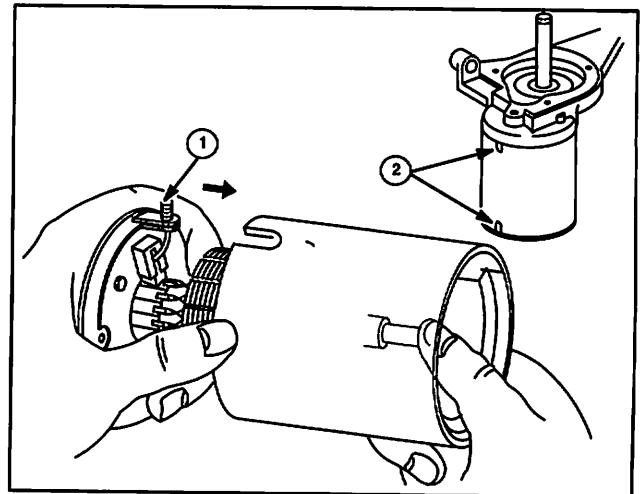

Fig. 38
4. Support armature shaft and slide it slowly into starter housing, as shown in Fig. 38.
5. Insert plastic insulator terminal (1) (System 3®, 4®) into starter housing.
7. Notches in end cap, housing and end head must be aligned (2), Fig. 38.